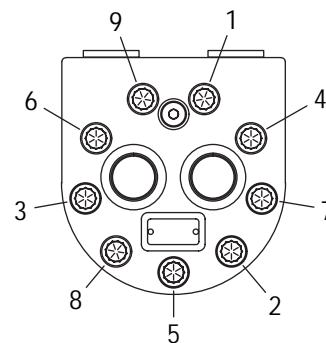

Figure 11
- 34 Place nine screws into flange, Geroler, end cap stack. Screw threads are to be lubricated with DTE-26. Verify screw alignment and then torque to 88-115 Nm [65-85 lb-ft] per the sequence in figure 11. Final torque each screw using the sequence in figure 11 to 176 Nm [130 lb-ft].